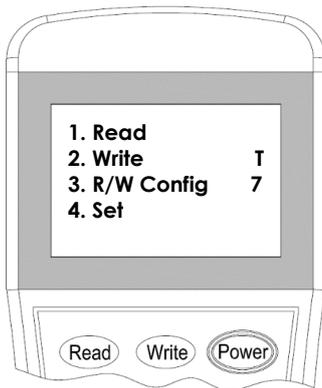

Figure 16
2. Switch-on the programmer, then press button **“Read”** or **“1”** to enter to Read mode (Figure 16). The programmer will display the configuration after few seconds. (Figure 17).